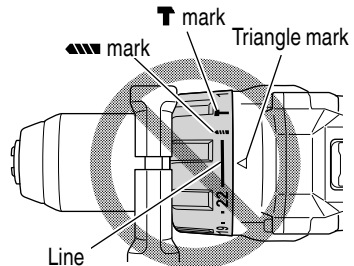

Fig. 18
- Do not use with the clutch dial number at "22" and the line at the middle of the drill mark. Doing so may cause damage. (See Fig. 18)